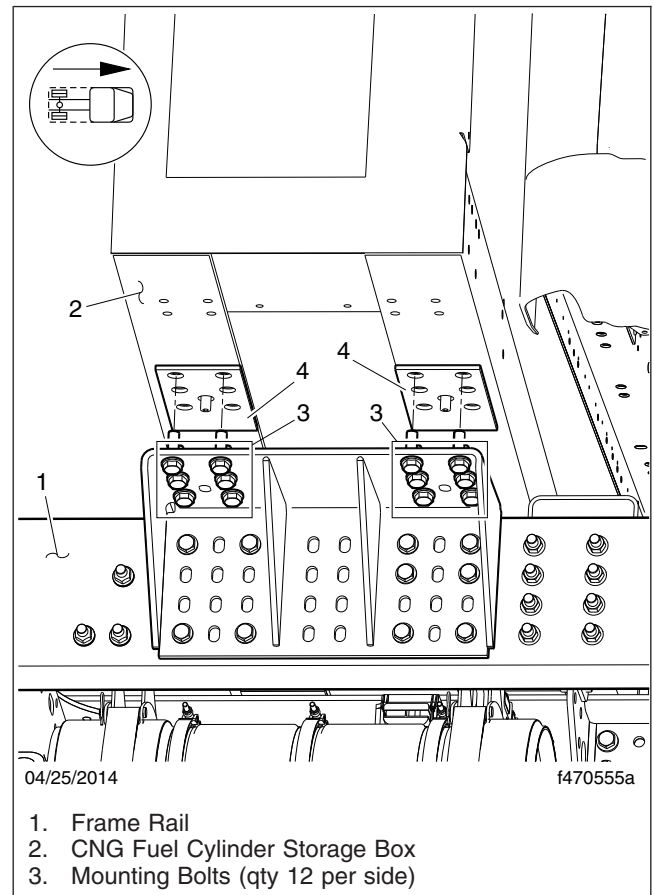

Fig. 10, Fuel Cylinder Storage Box Mounting Bracket (passenger side shown)
1. Ensure that the fuel cylinder storage box is secured to the frame. Inspect for any signs of looseness. If necessary, tighten the storage box mounting bolts 160 lbf-ft (217 N·m). See **Fig. 10**.
NOTE: During initial pre-delivery inspection (PDI), tighten the storage box mounting bolts (shown in **Fig. 10**) 180 lbf-ft (244 N·m).